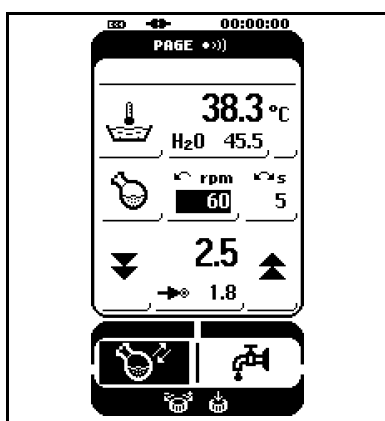

Fig. 16: Press and hold the “Exchange flask” button.
2. Press and hold the “Exchange flask” button for three seconds until it indicates that it is active (see Fig. 16 + 17).